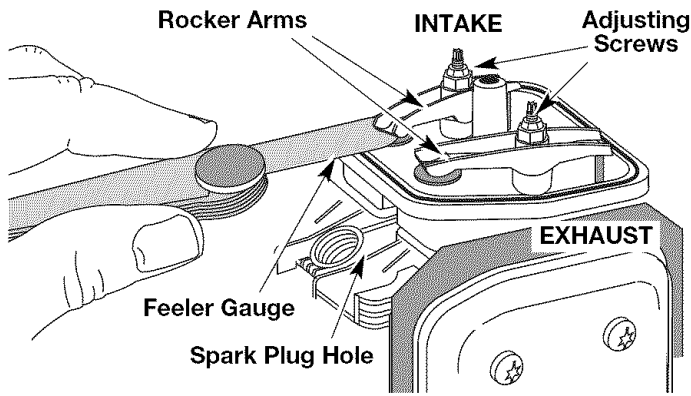

Fig. 32
- The piston is at the top of its travel. Look in the spark plug hole to view the piston (Fig. 32)
between the valve stem and rocker arm (Fig. 32). Measure both the intake and exhaust valves.
The recommended clearance for both intake and exhaust is .003–.006 in. (.076 – 0.152 mm). Use a standard automotive .005 in. (0.127 mm) feeler gauge. The feeler gauge should slide between the rocker arm and valve stem with a slight amount of resistance, without binding. See Figures 32 and 33.
- a. Turn the adjusting nut using a 5/16 inch (8 mm) wrench or nut driver (Fig. 32).